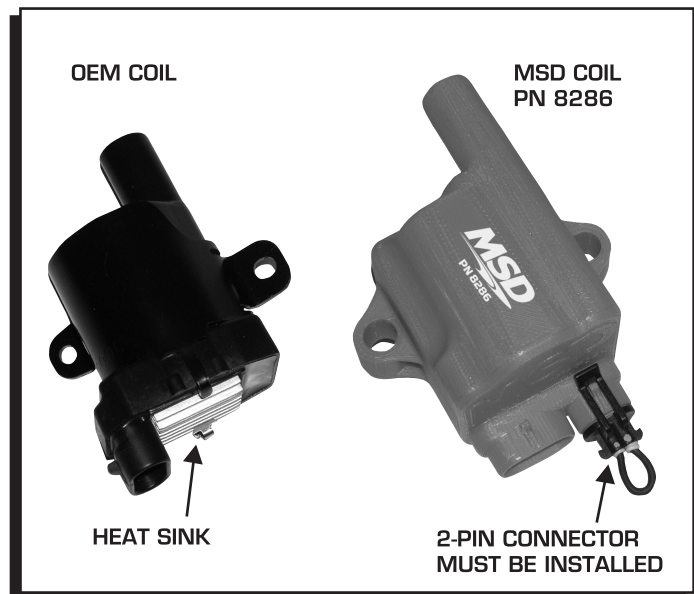

Figure 1 Coil Identification
The original coil will have a heat sink, an aluminum looking panel, on one side (Figure 1). It also has the socket for the spark plug wire on the opposite side of the coil harness connector. (If the spark plug wire and harness connector are on the same side, you may require the MSD PN 8285 coil.)
**IMPORTANT:** Notice that the MSD Coil has a 2-pin connector (Figure 1). This 2-pin connector must be plugged in to the coil. If not, the coil will not operate. This additional connector is for an optional ignition/timing control.